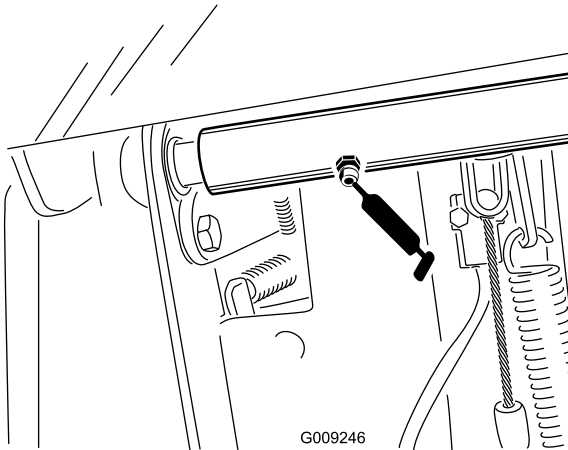

Figure 52
- Brake shaft pivot bearings (1) (Figure 52)